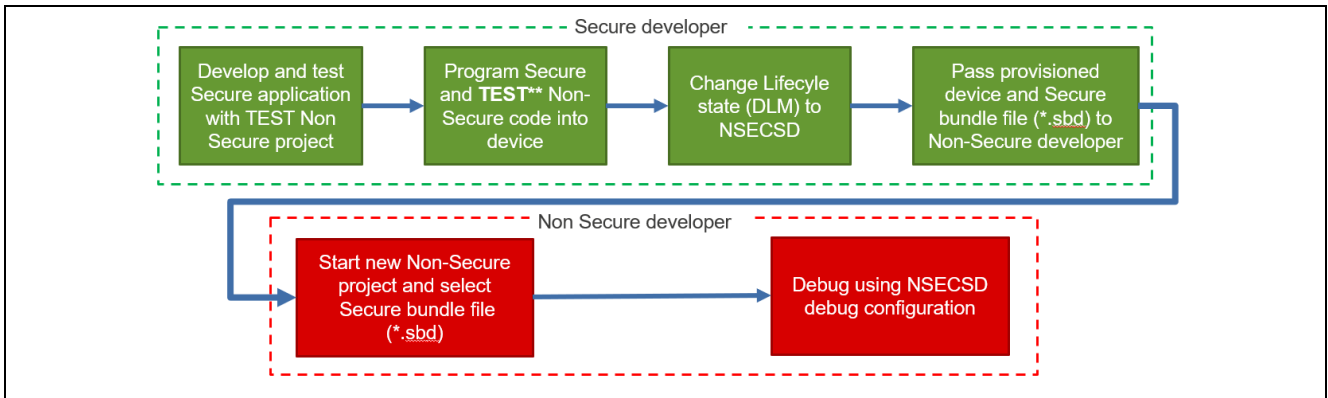

Figure 42. Development Flow for Developing in NSECSD State
- See Figure 42 for details on the general flow to support Non-secure project development in the NSECSD state.
For the Split Project Development Model, the Non-secure application developer receives the MCU in the NSECSD state. As mentioned towards the end of the last section, special handling is needed to enable development in the NSECSD state. Figure 42 is a summary of the general flow of development in the NSECSD state.